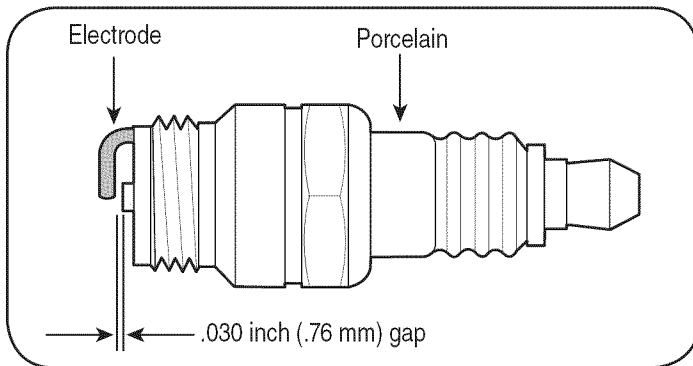

Figure 9
2. Remove and inspect the spark plug. Check gap to make sure it is set at .030". See Figure 9.